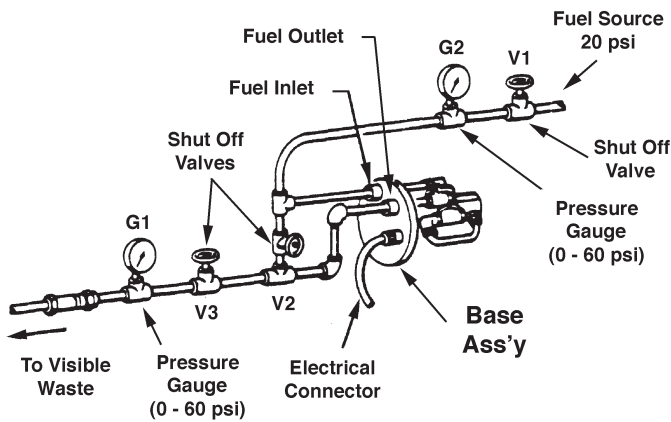

Figure 6 - Test Set Up
- (16) Reconnect the electrical connector and apply safety wire properly to secure.
- (17) When assembly of Solenoid Valve and clamp is complete, a leakage test must be performed using a test set up similar to that in Figure 6.
- (18) When performing the fuel leakage test, Stoddard solvent (or equivalent solvent) may be used in the fuel source instead of aviation fuel.
(19) Fuel Leakage Test:
- (a) The test set up in Figure 6 consists of a fuel source capable of supplying 20 psi, three shut off valves, two fuel pressure gauges (0-60 psi minimum), and suitable plumbing components configured as shown. Fuel source may be supplied by a gravity tank or fuel pump as long as 20 psi can be achieved.
- (b) Make sure the Sealed Control Base Assembly is in a vertical plane with the fuel inlet at the top in the highest position as shown in Figure 6 and connect all components. (Provide a suitable container to catch waste fuel at the end of the visible waste line.)
- (f) Allow ten (10) minutes to elapse, then observe all fuel fittings, tubes, and components for evidence of fuel leakage. If wet or leaking fuel is found, correct the condition and re-apply the fuel leakage test. If leakage continues or is found in areas other than the Solenoid Valve being replaced, the unit should be completely overhauled.